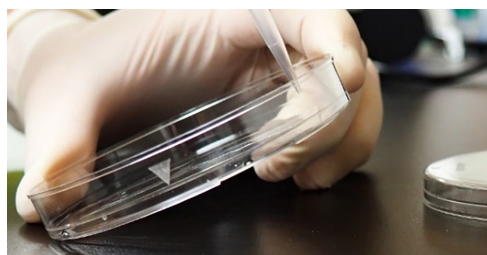

Figure 5-5: Correct angle of scWest chip and Petri dish when collecting excess cells and performing washes.
- 4 Gently tilt the scWest chip/Petri dish at a $\sim 45^\circ$ angle so the cell solution pools at the bottom of the chip (Figure 5-5).